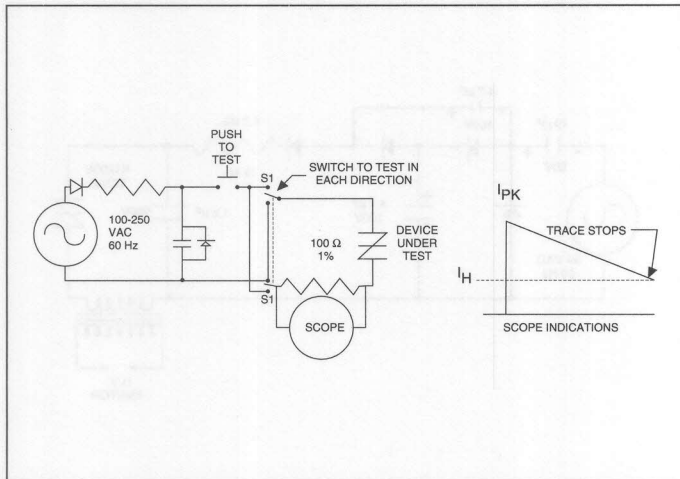

Figure 9.14 Dynamic Holding Current Test Circuit for Sidacs
- See Figure 9.14 for test circuit.